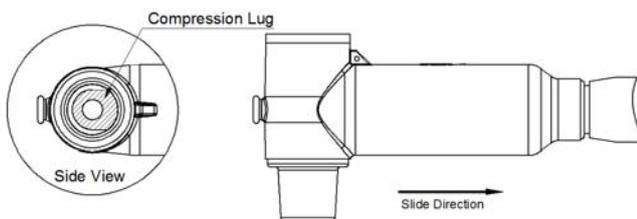

Fig.13
- Step 4.** Repeat Steps 1 to Step 8, prepare cable and install bolted companion coupling (rear) T-body connector. (See Fig. 13)